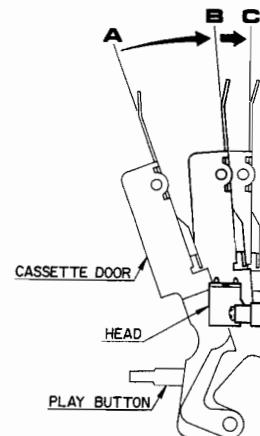

Fig. 2
b. Close the cassette door slowly by hand. Make certain that the PLAY pushbutton will not move in the range of the position A to B in Figure 2 while the cassette door is closed.